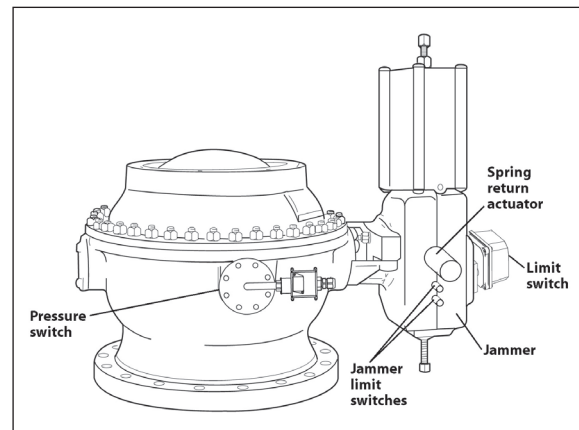

Figure 3. Mechanical jammer device
- ❑ Mechanical jammer device (Fig. 3) is built in the actuator housing, jammer mechanism prevent the actuator piston rod to move when valve is close position. The jammer is guided by spring return actuator, limit switches and solenoid valve.